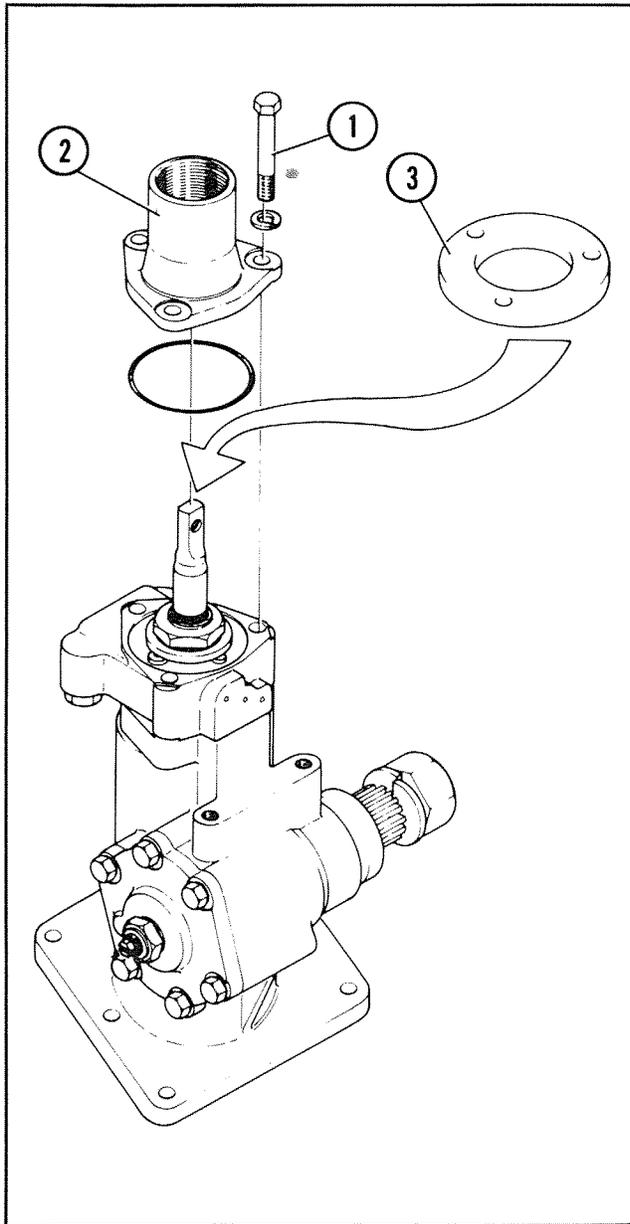
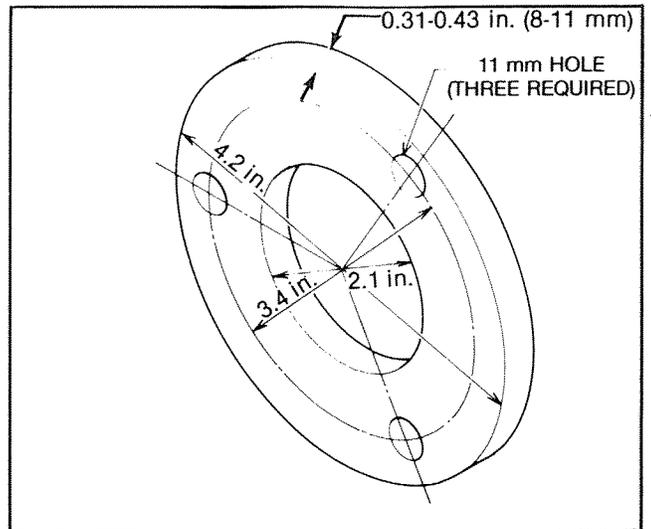

Figure 30
Figure 31
4. Remove the bolts (1) and rear cover (2), Figure 30.
5. Make an assembly plate as shown in Figure 31. Install the assembly plate (3), Figure 30, using the rear cover retaining bolts.